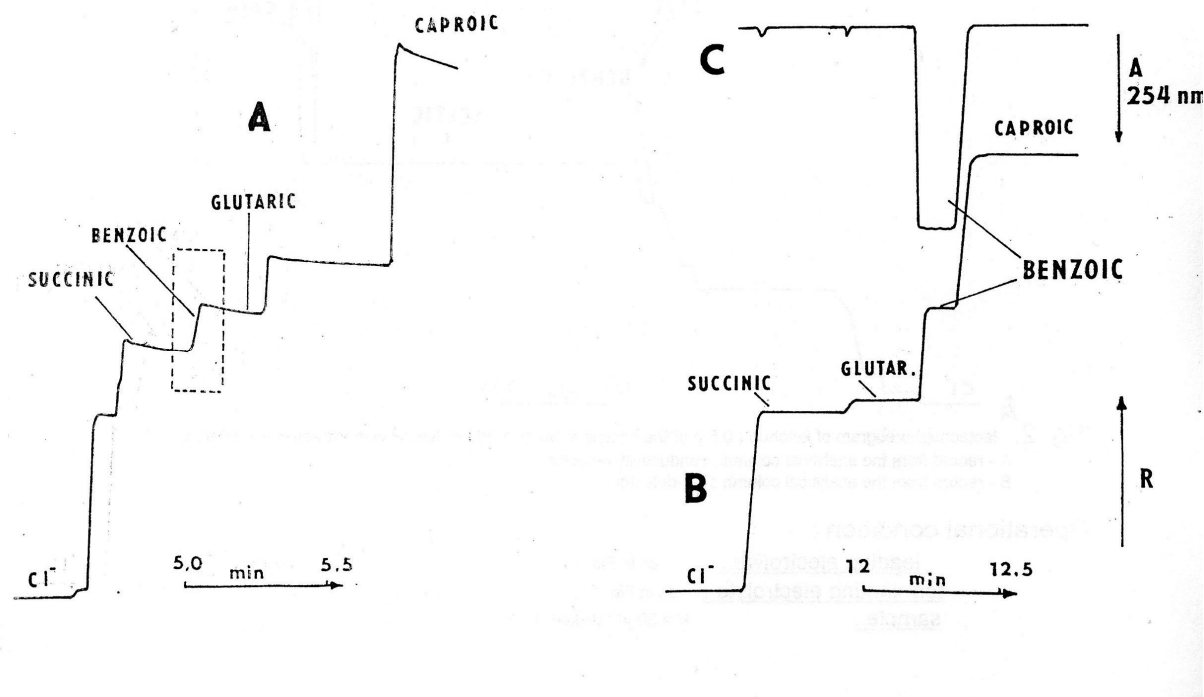

Fig. 1 : Isotachophoreogram of mustard (0,5 g of the sample was extracted in 50 ml 1mM NaOH, filtered and diluted 1 : 1.)
leading electrolyte (LE):	as in Fig.1
terminating electrolyte (TE):	as in Fig.1